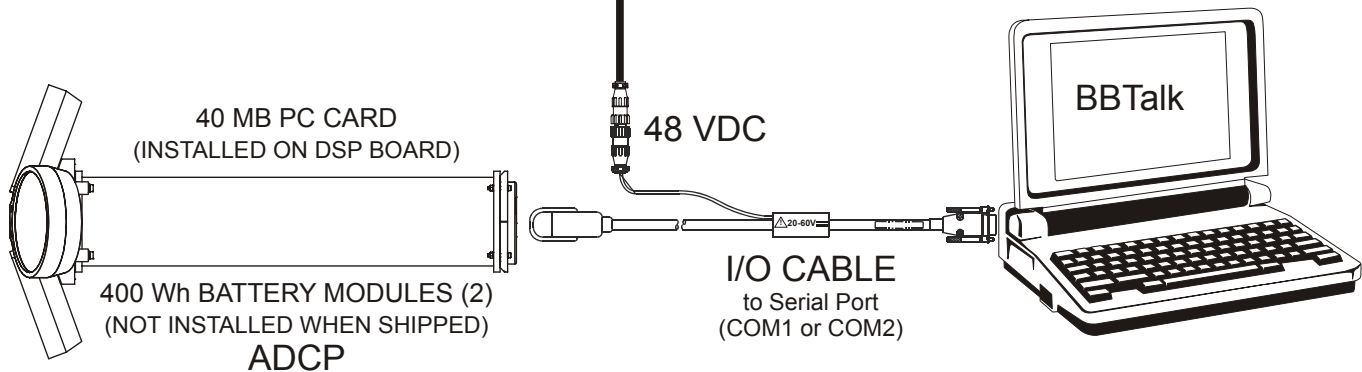

Figure 2. Long Ranger ADCP Connections
- a. Connect the ADCP as shown in Figure 2. Place the ADCP in a bucket of water (enough water to cover the transducer head). If the ADCP is not placed in water, some of the tests will fail.